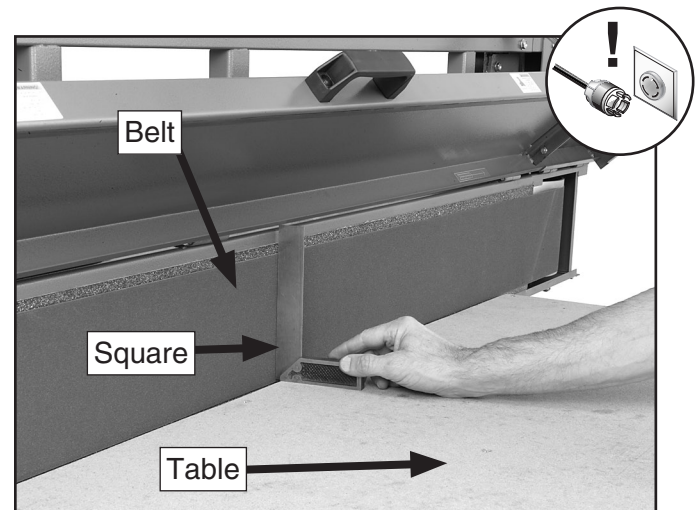

Figure 59. Checking belt for square.
3. Use a square to check the angle between the belt and the table at both ends of the machine (**Figure 59**).